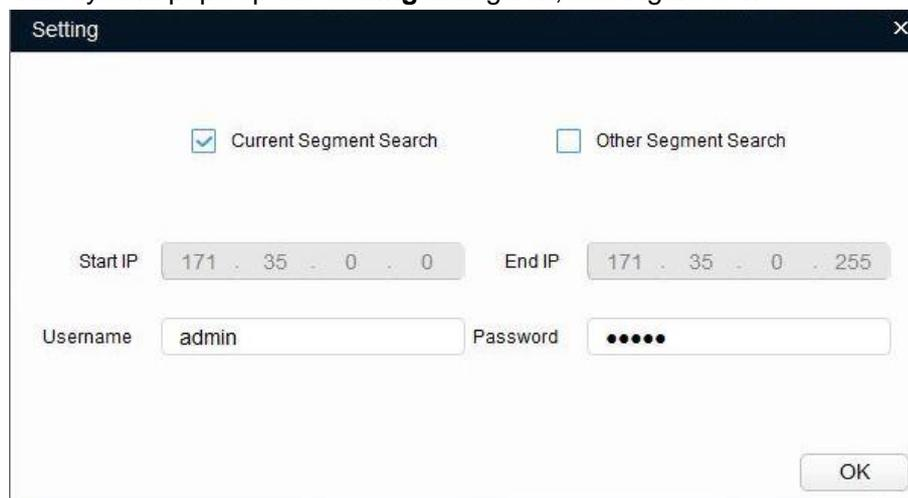

Figure 3-1
- Step 2** Take out the installation position map (shown in Figure 3-1) from the accessories bag, adjust the installation angle of the installation position map according to the needed monitoring angle, and then paste it on the installation surface such as ceiling or wall and so on.
The system pops up the **Setting** dialog box, see Figure 3-1.